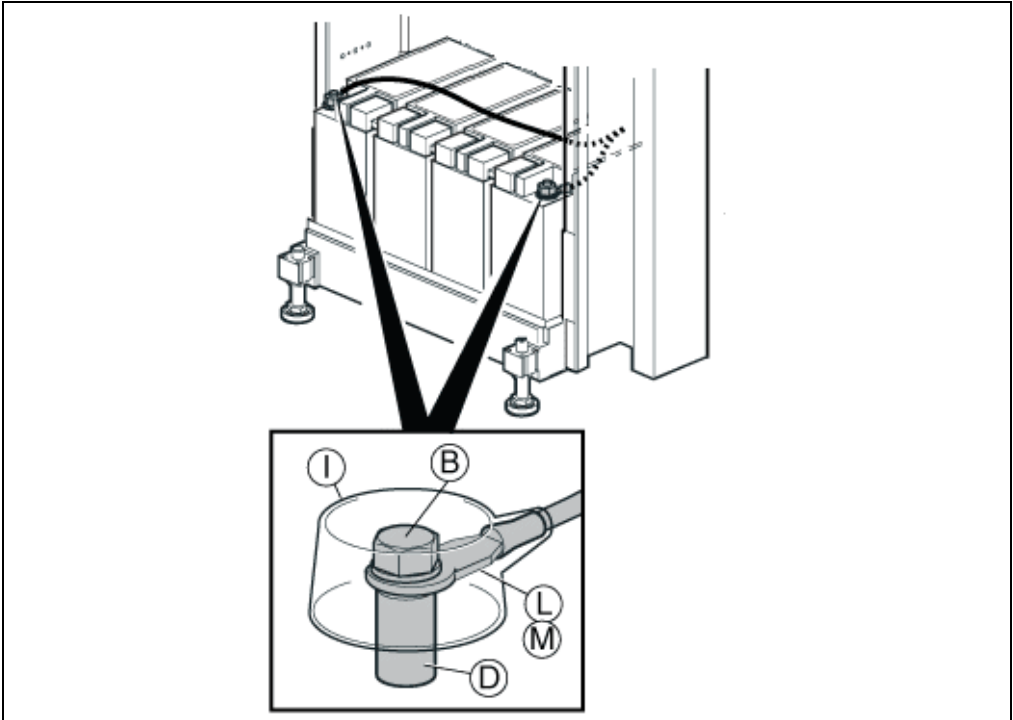

Figure 12: Connecting the Batteries
1. Connect the cable lug (L) of the grey cable to the red plus pole (D) of the rightmost battery block, see Figure 12: Connecting the Batteries on page 19.
2. Fasten the screw (B) to secure the cable lug and press down the cover (I) on the red plus pole (D).
3. Connect the cable lug (M) of the black cable to the minus pole (D) of the leftmost battery block, see Figure 12: Connecting the Batteries on page 19.
4. Fasten the screw (B) to secure the cable lug and press down the cover (I) on the black minus pole (D).